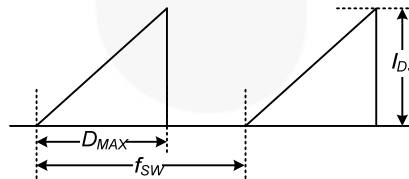

Figure 4. Repetitive Peak Switching Current
6. Repetitive peak switching current when the inductive load is assumed: Limited by maximum duty (D_{MAX}=0.73) and junction temperature (see Figure 4).